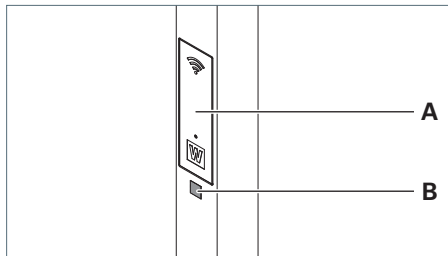

Fig. 36: Scanning QR code.
- ▶ Scan the QR code **B** of the luminaire which is located underneath the service flap **A** on the column, see Fig. 36.